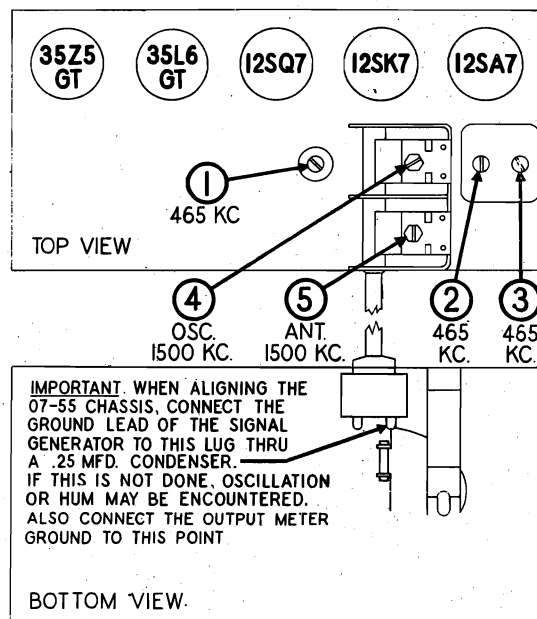

Fig. 2
1. On the 07-51H, connect the output meter across the voice coil or between the plate of the 35L6GT output tube and chassis through a .1 mfd. condenser, depending upon the type of meter. The more sensitive type should be connected across the voice coil. THE CONNECTIONS FOR THE 07-55 ARE THE SAME EXCEPT CONNECT THE GROUND LEAD TO THE POINT SHOWN IN FIG. 2 INSTEAD OF TO CHASSIS.
2. When aligning the 07-51H chassis, connect the ground lead of the signal generator to the chassis of the receiver through a .25 mfd. condenser and keep it connected in this manner throughout the entire alignment procedure. FOR THE GROUND LEAD CONNECTION TO THE 07-55 CHASSIS, REFER TO "BOTTOM VIEW," FIG. 2.